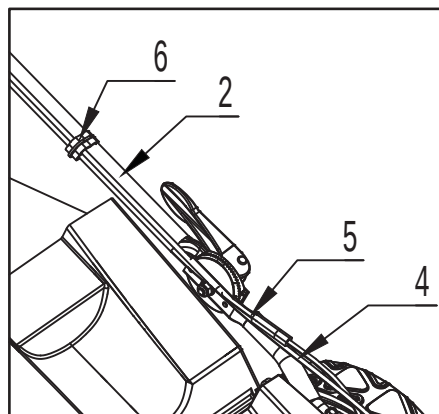

Fig. 3
7. Attach the self-propelling wire (5) and the brake wire (4) with the wire clip (6) on the upper handle bar (2) (Fig. 3)